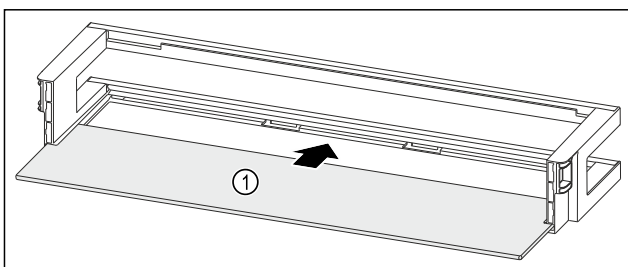

Fig. 133 Door racks with shelf
- ▶ Push the shelf Fig. 133 (1) into the side recesses.